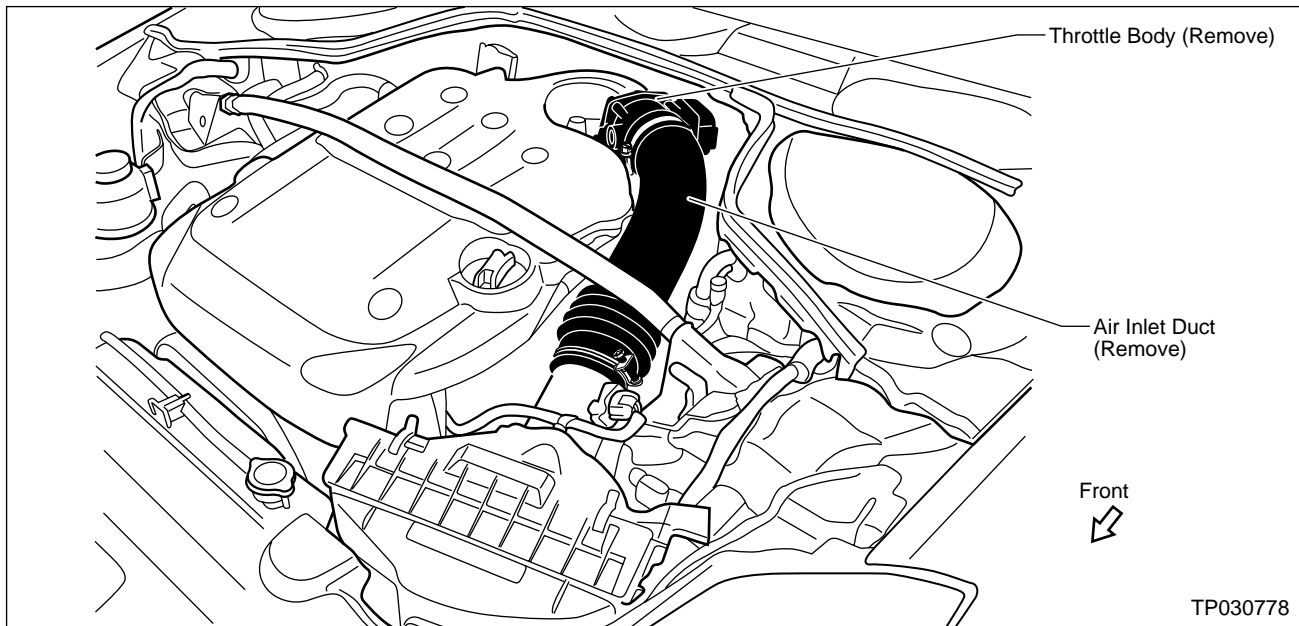

Figure 15
3. Remove the Air Inlet Duct and Throttle Body (see Figure 15).